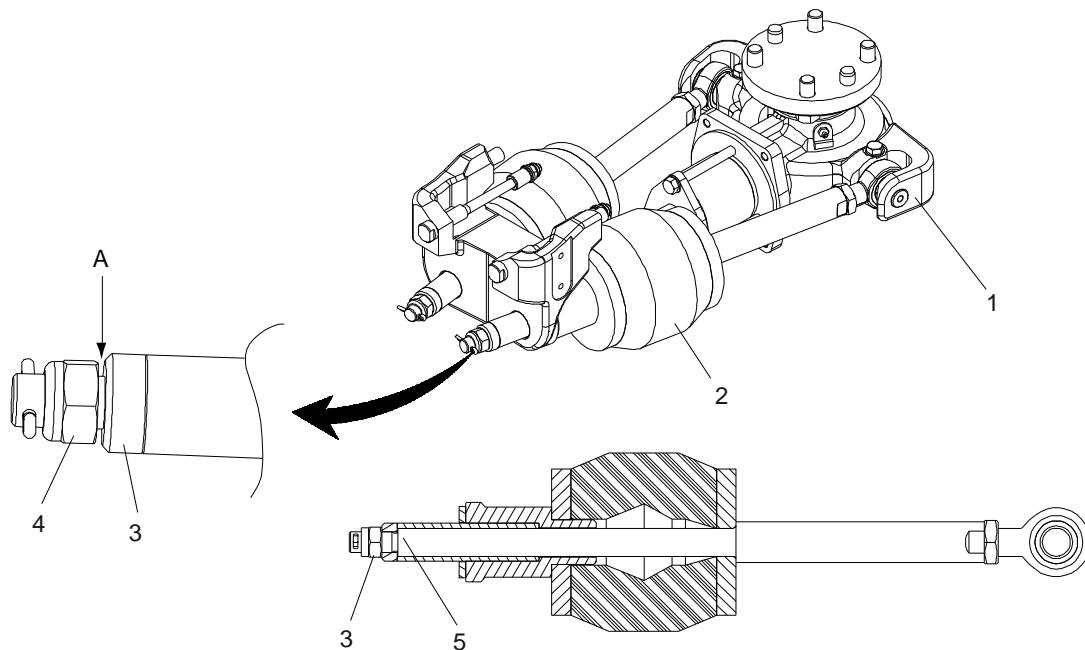

Figure 5-3: Inspect Support and Centering
1. Check if there is a gap at the nut (4) and bushing (3). If a gap is present, snug the nut (4) until the gap is removed. Do not torque because this is not a traditional clamping joint. Snugging the nut should allow it and the bushing to bottom out on the shoulder of the rod (5). See Figure 5-3.
1. Perform a general visual inspection of the nuts, bolts and spring pins of the support and centering device (1) for damage, deformation and loose or missing parts. See Figure 5-3.